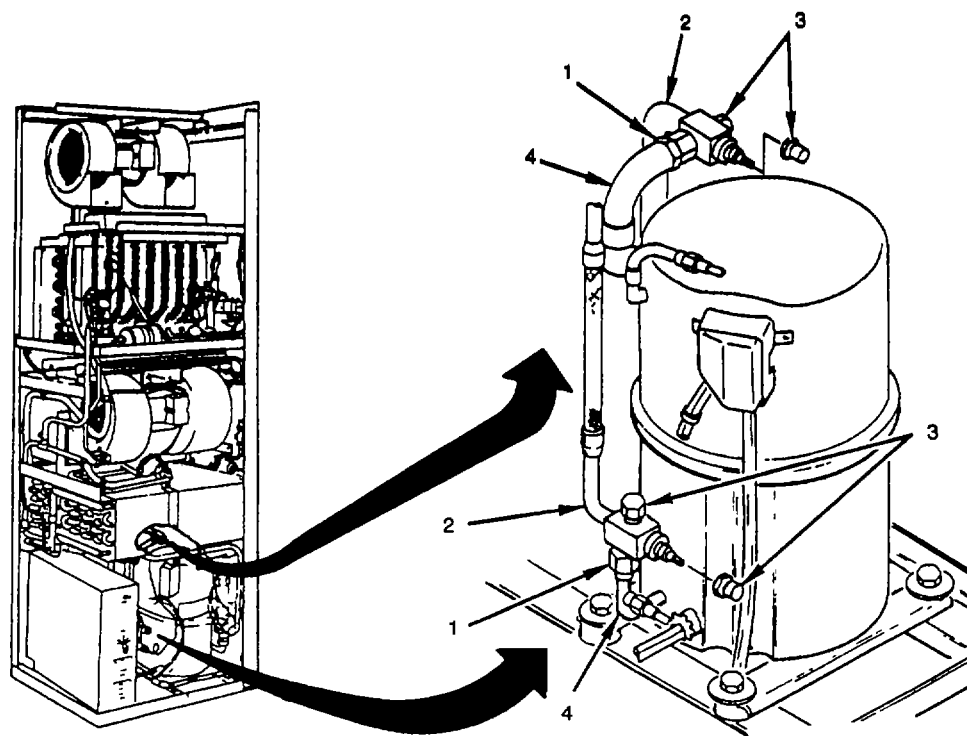

Figure 5-27. Service Valves (V9 and V8) (Discharge and Suction)
- a. Inspect for evidence of leaks, damaged lines and loose or missing mounting hardware (see fig. 5-27).